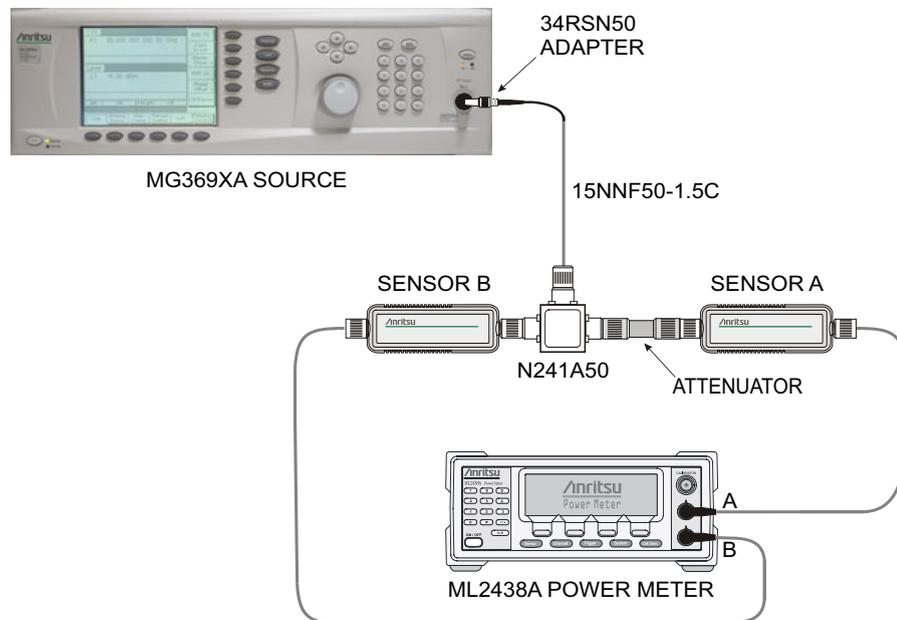

Figure 2-2. Component Characterization
2. Connect the model 1870A power splitter to the MG3692A or MG3692B output and Sensor B to one of the power splitter outputs (Refer to Figure 2-2).
3. Connect the equipment as shown in Figure 2-2 on page 2-7.
2. Connect the model 1870A power splitter to the MG3692A or MG3692B output and connect Sensor B to one of the power splitter outputs (Refer to Figure 2-2).